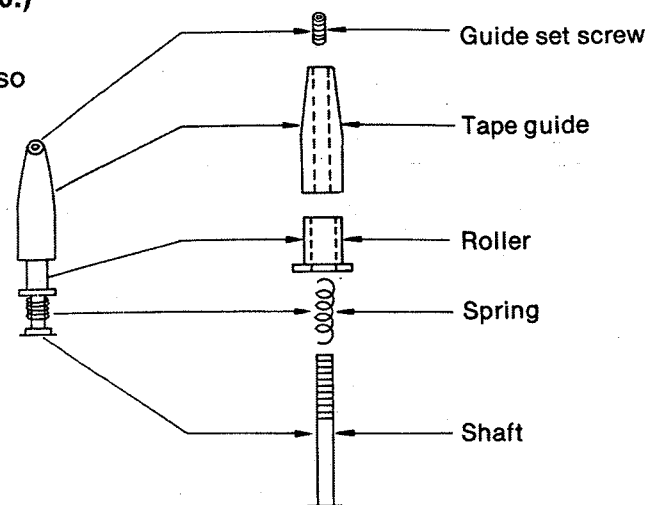

Fig. 20
Adjustment of Tape Guides (A) (Refer to figure 20.)
- (1) Loosen the guide set screw.
- (2) Begin tape movement, and turn tape guides so that tape is at center of guide (B).
- (3) After adjustment, tighten the guide screw.